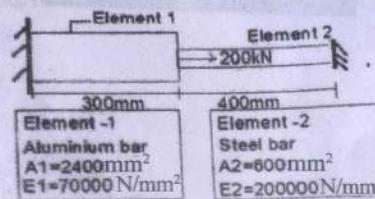

Fig 3.
7. A stepped bar is subjected to an axial load of 200 kN at the place of change in cross-section as shown in Fig. 3. Find Reaction forces and induced stresses in elements 1 and 2.